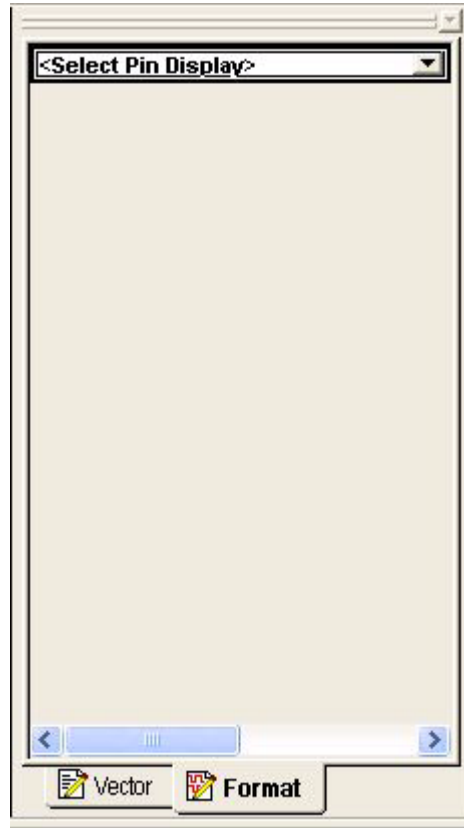

Figure 5-61. Edit Vector Pane Blank Format Tab
- 3 Selecting the Format  tab in the Edit Vector Pane displays its tab (similar to Figure 5-61).